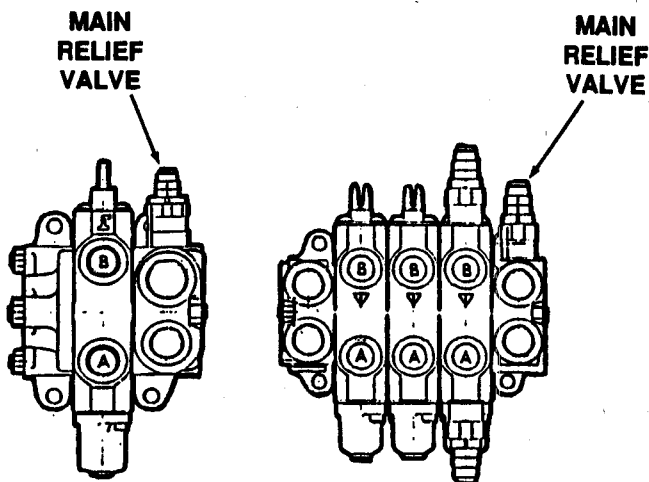

Figure 3. Location of Main Relief Valves
Each pump circuit has a main relief valve. The location of the main relief valves is in the inlet of the main control valves, Figure 3. The relief valve is between the center or pump passage and the tank passage in the control valve.
The main relief valve for pump circuit No. 1 is in the control valve for MAIN WINCH, Figure 3. The main relief valve for pump circuit No. 2 is in the control valve for HOIST, CROWD, SWING and OPTIONAL WINCH. Both relief valves are set at 2500 psi (17 230 kPa).
2. Install a 0-5000 psi pressure gauge on the quick coupler in the pump circuit being tested. See Figure 3.